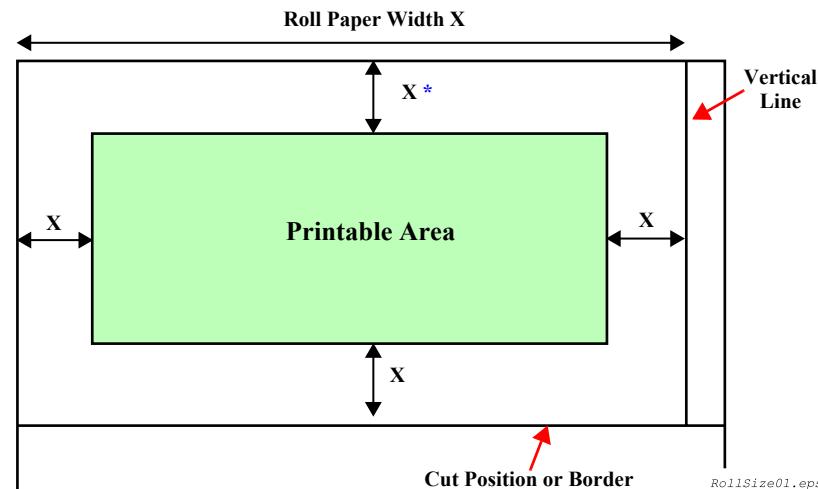

Figure 1-10. Roll Paper Margin (1)
Vertical and horizontal page lines are printed along a line 12 mm outside of all four edges or top and bottom edges of the specified page size. See “Fig 1-10 Roll Paper Margin (1)” (p.65).
Vertical and horizontal page lines are printed along a line 12 mm outside of the top edge of the specified page size. See “Fig 1-10 Roll Paper Margin (1)” (p.65).